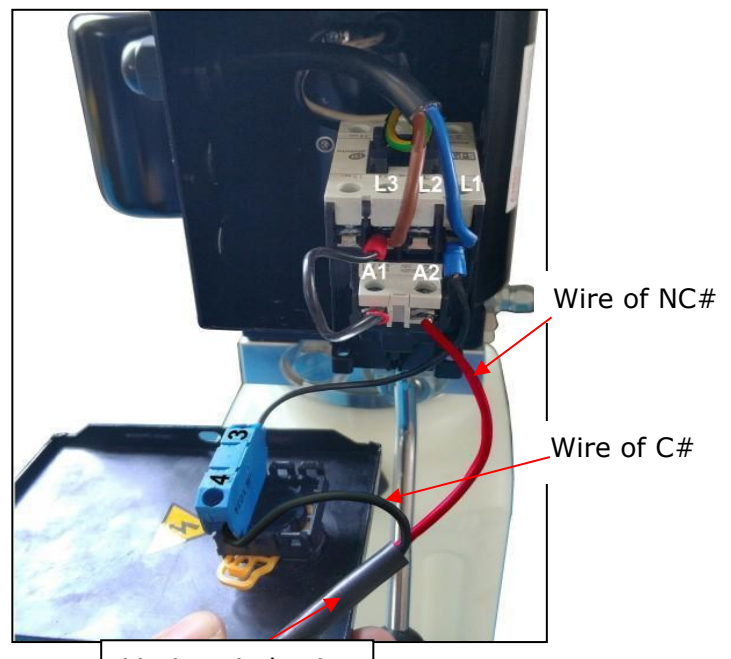

Fig.41
3. Connecting the limit switch: Remove the short wire connecting terminal 4# of control button and A2 of AC contactor firstly (See Fig. 41), then connect wire C#(black wire) of limit switch with terminal 4# of control button and connecting wire NC#(red wire) with terminals A2 of AC contactor respectively. (See Fig. 39)
1. Circuit diagram (See Fig. 41)